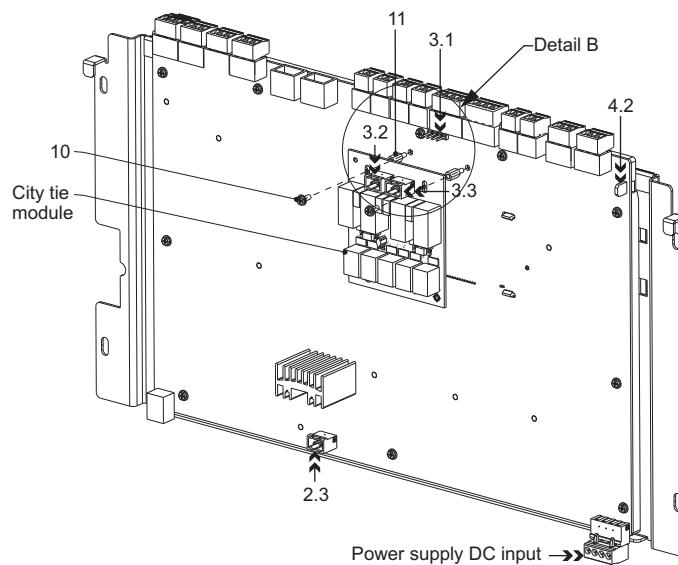

Figure 2 Installation instruction(Main board assembly back view)
| 2 |  | Cable between batteries and main board, refer to figure 1,figure 2 | 1 |
| 3 |  | Cable between City tie board and main board, refer to figure 2 | 1 |
| 4 |  | Earth cable between enclosure and main board, refer to figure 1 and figure 2 | 1 |
| 10 |  | No.4 screws, refer to figure 2 | 2 |
| 11 |  | Spacer for City tie board, refer to figure 2 | 2 |
| 12 |  | Power supply MOV(Metal Oxide Varistor), refer to figure 2 | 1 |
3. Mount the City tie module onto the main board according to the Figure 2 (City tie module is optional).